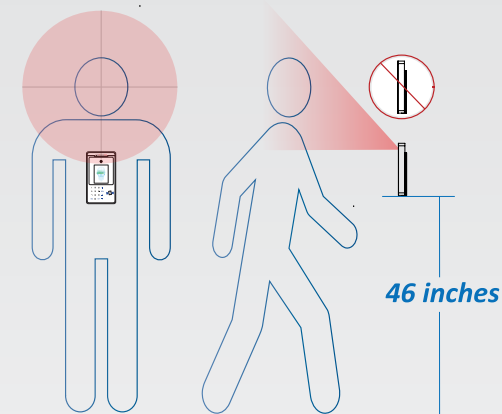

Fig 1.08-2
- The Faceplate should be chest-height to the user for best operation. (*Fig 1.08-2*)